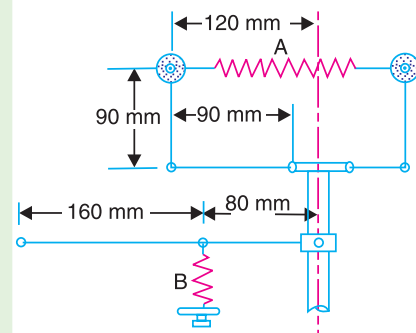

Fig. 18.30
**Example 18.22.** A spring loaded governor is shown in Fig. 18.30. The two balls, each of mass 6 kg, are connected across by two springs. An auxiliary spring B provides an additional force at the sleeve through the medium of a lever which pivots about a fixed centre at its left hand end. In the mean position, the radius of the governor balls is 120 mm and the speed is 600 r.p.m. The tension in each spring is then 1 kN. Find the tension in the spring B for this position.